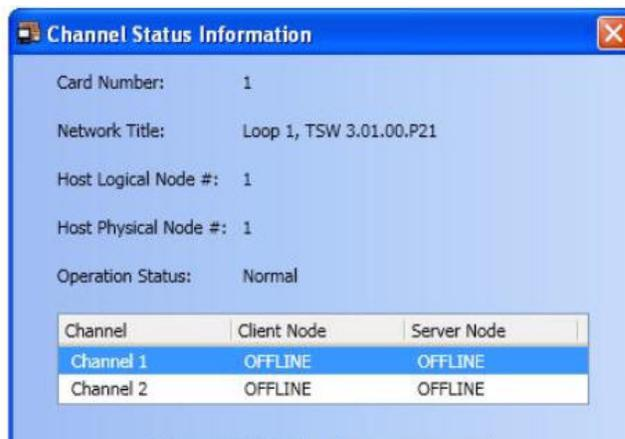

Figure 11-5 Channel Status Information Dialog Box
- To view channel status: select a node in the fire panel network topology diagram and click **Channel Status**. The **Channel Status Information** dialog appears as shown in Figure 11-5.